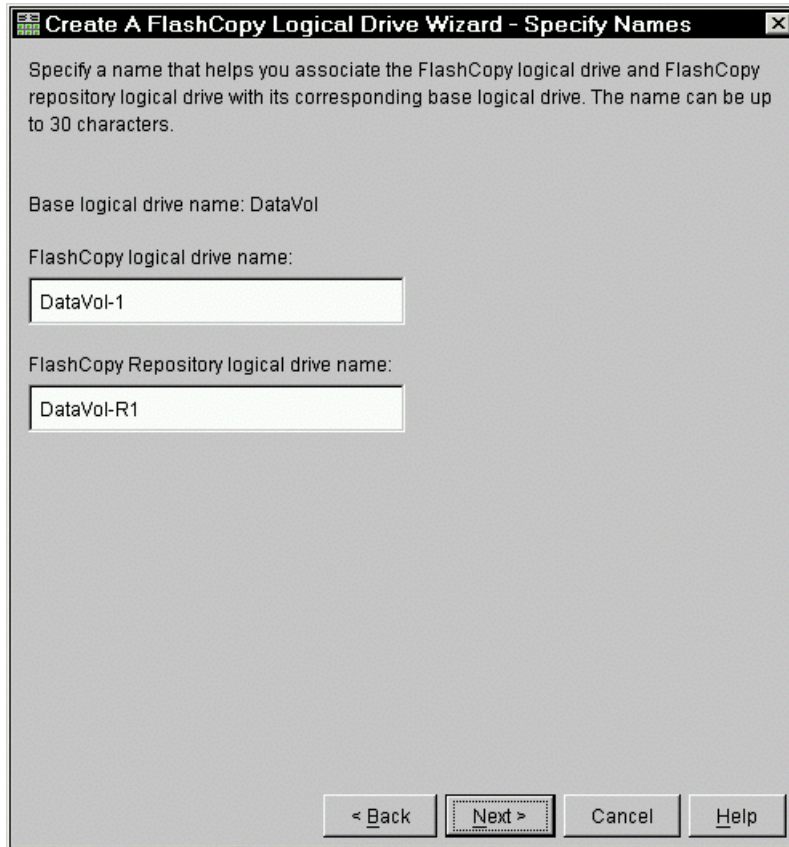

Figure 5-15 Specify Names
- d. On the Specify Names window (Figure 5-15), you define the FlashCopy logical drive name and the name of its associated FlashCopy repository logical drive.